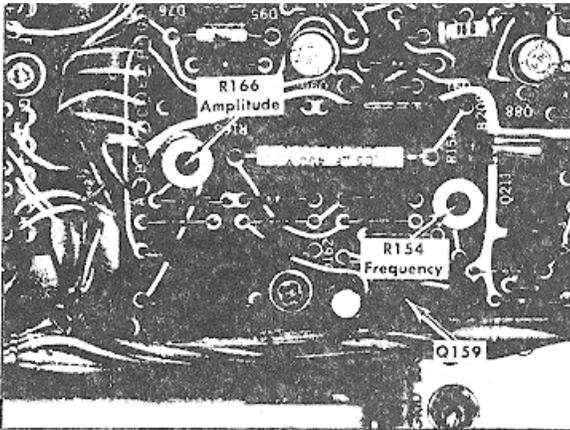
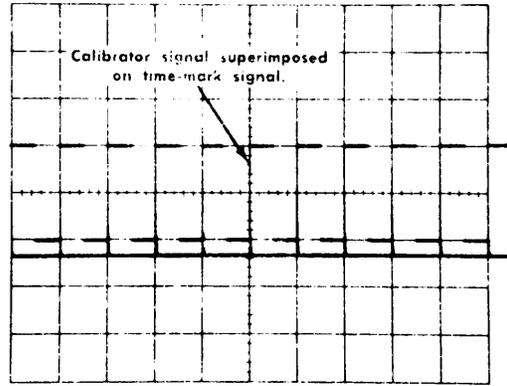

Fig. 5-16. Location of Calibrator controls.
Fig. 5-17. Typical CRT display showing correct calibrator repetition rate.
c. ADJUST--R166, Amplitude (Fig. 5-16) for meter reading of exactly +40 volts.
d. Remove Q159 (Fig. 5-16) and check the remaining calibrator voltages as listed in Table 5-2. Connect a 50 ohm termination to the CAL OUT connector when checking the 0.2 V, 20 mV and 2 mV positions of the CALIBRATOR switch.
CHECK--One cycle of calibrator waveform for each marker (see Fig 5-17). The error in 10 major divisions must be ≤ 0.5 minor divisions (the positive transition of the square wave at the right hand edge of the graticule must be no more than 0.5 minor divisions (1 mm) from the positive transitions of the corresponding time marker. **Disconnect the time -mark generator and proceed to step 20.**
- g. ADJUST--R154, Frequency (Fig. 5-16), for one cycle of calibrator waveform for each marker. See Fig. 5-17 (Since the sweep was calibrated in step 4, the display should also be one cycle of calibrator waveform for each major division.)